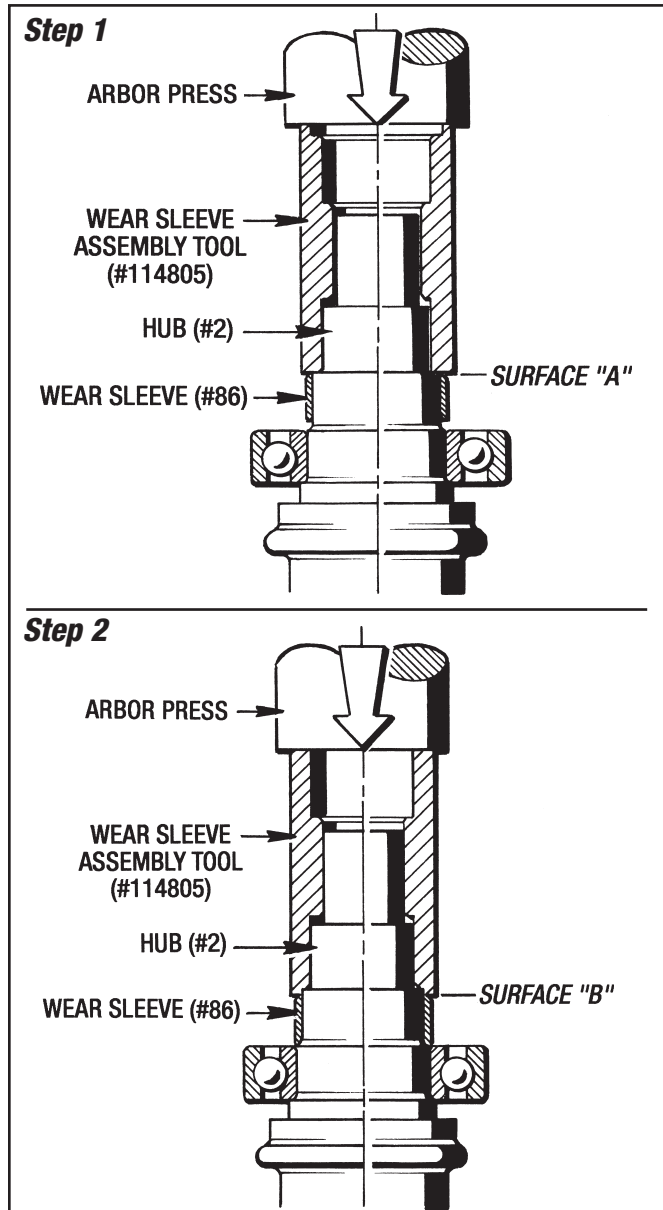

Figure 9.4 - Installing Wear Sleeve (#86)
3. Apply Red Loctite #262 to the hub diameter and with **Surface "A"** of the **Assembly Tool (#114805)** press the Wear Sleeve (#86) flush with the hub shoulder as shown in **Step 1** in Figure 9.4.
Turn the **Assembly Tool (#114805)** over and with **Surface "B"** finish seating the Wear Sleeve (#86) until it bottoms out. (See **Step 2** in Figure 9.4)